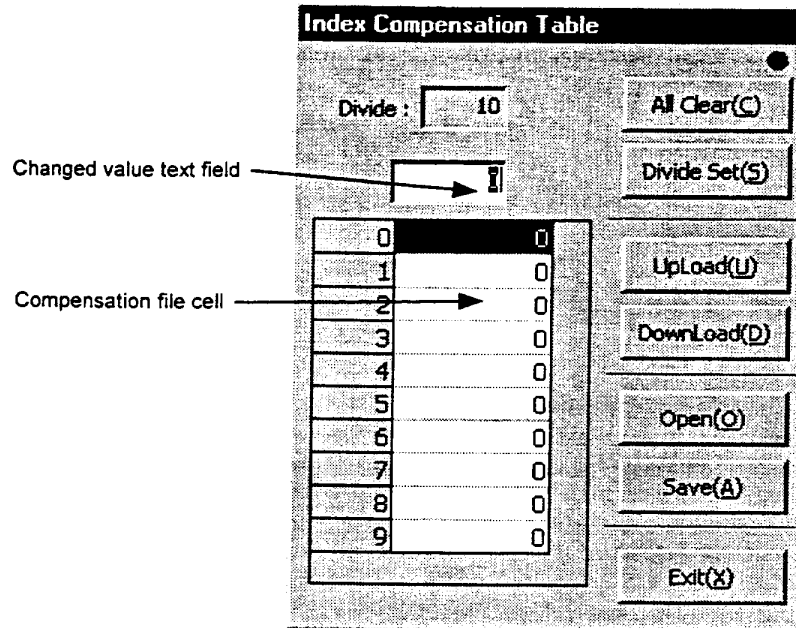

Figure 7.42 "Index Compensation Table" dialog box
Click "Table Edit (E)" in the "Index compensation" dialog box to display the "Index Compensation Table" dialog box (see Figure 7.42).